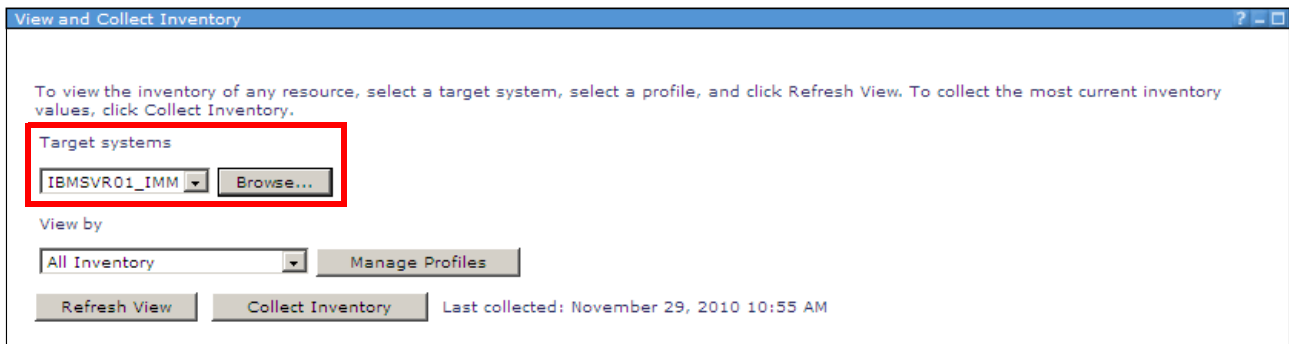

Figure 9-25 Collecting inventory for a managed system
14. Your IMM will be displayed in the Target systems list box, as shown in Figure 9-25.